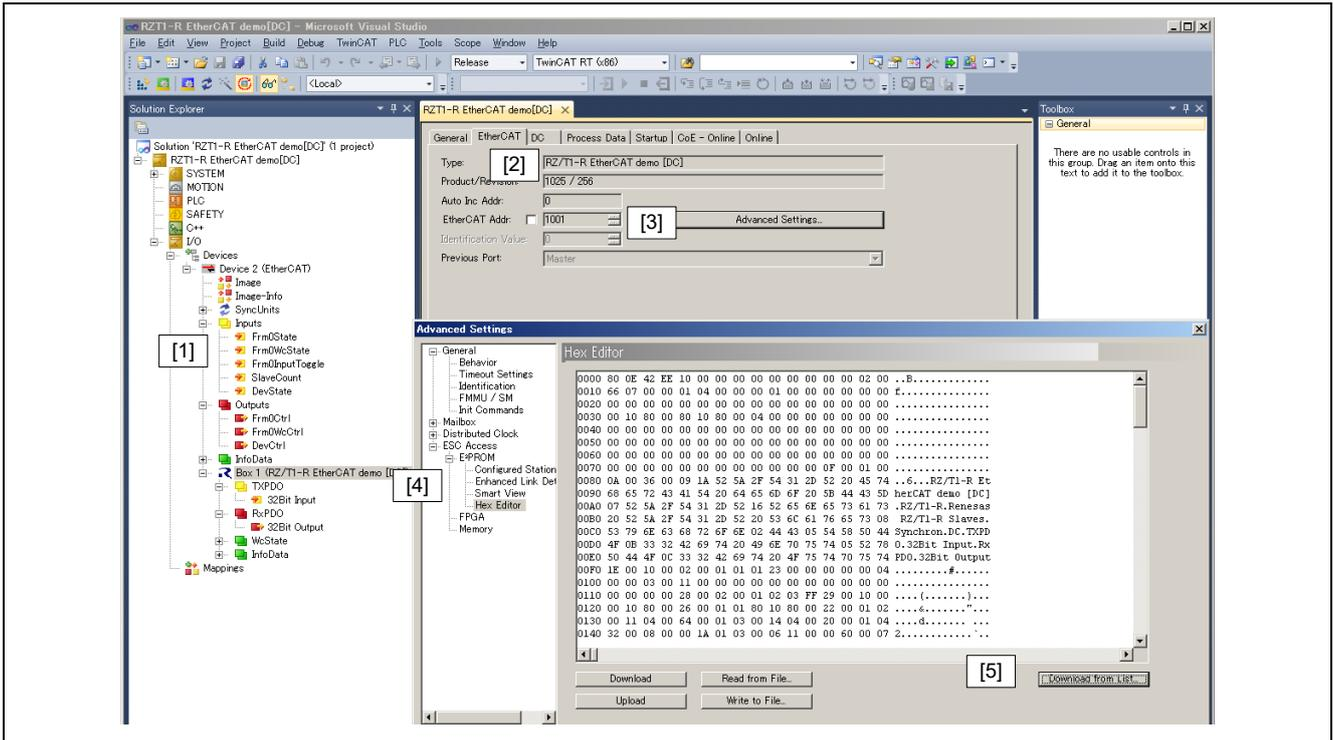

Figure 7.5 Procedure for Replacing the Data on the EEPROM (1)
(1) Double-click [Box 1] to display a panel on the right side of the window as in Figure 7.5
(2) Select the [EtherCAT] tab.
(3) Click the [Advanced Setting] button.
(4) Select [ESC Access] > [EEPROM] > [Hex Editor].
(5) Select [Download from list].
(6) Select [Available EEPROM Description].